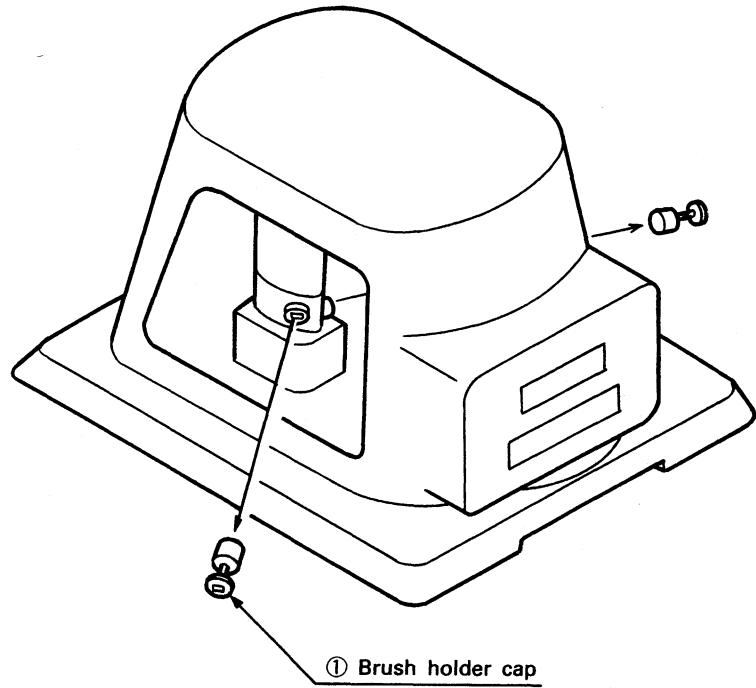
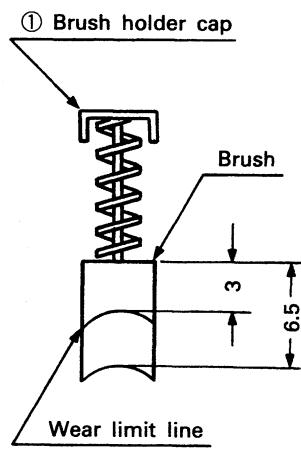

Fig. 4.3.3 Checking and Changing the Waist Drive Motor Brushes
Fig. 4.3.4 Brush Shape
- (1) Fig. 4.3.3 outlines the inspection and replacement procedures of the waist drive motor brushes.
- (2) Remove both base side covers in accordance with Section 3.2 Removal of Covers.
- (3) Using a flat-blade screwdriver, turn the heads of the two brush holder caps ① counterclockwise to remove the brush holder caps ①.
- (4) Fig. 4.3.4 shows the shape of the brush and its wear limit length. Check the brush for wear and change before the wear limit is reached.
- (5) If the brush is damaged, change it independently of its length.
- (6) Check the brushes one location at a time. When they are reinstalled, make sure of the correct installation position and direction.